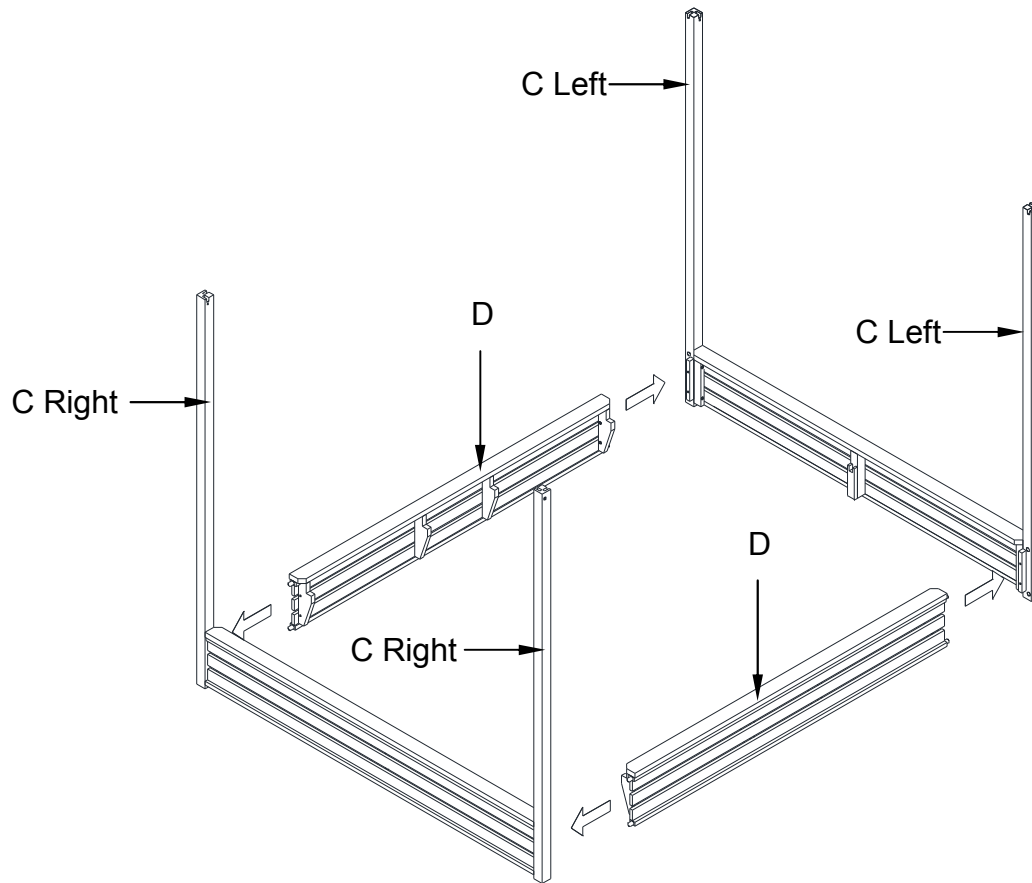

Fig. 2
2. Assemble Left & Right Side Frames (E) to the Front & Back Frame (D). (See **Fig. 2**).